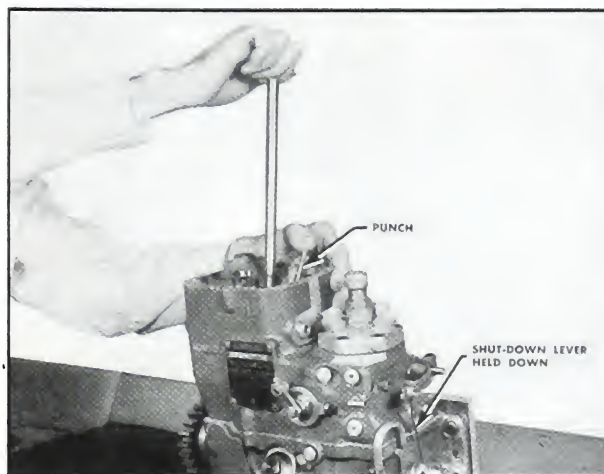

Fig. 5-354. Connect the governor lever
- B. Secure the shut-down lever down. Fig. 5-354.
- C. Hold the governor lever against its maximum stop by backward pressure on the wrench and tighten in place. Fig. 5-354.